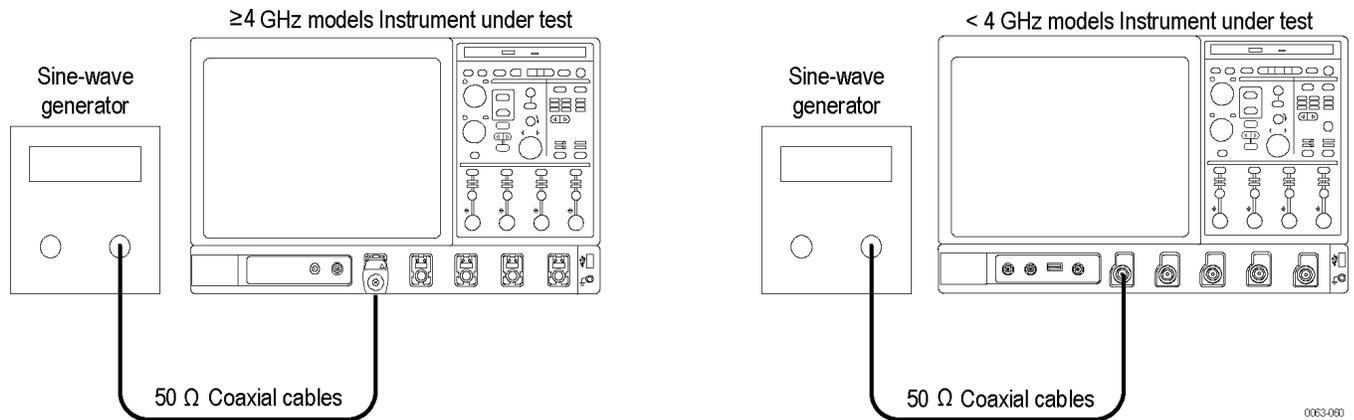

Figure 41: Serial trigger baud rate test hookup
- a. Hook Up the test-signal source: (See Figure 41 on page 322.)